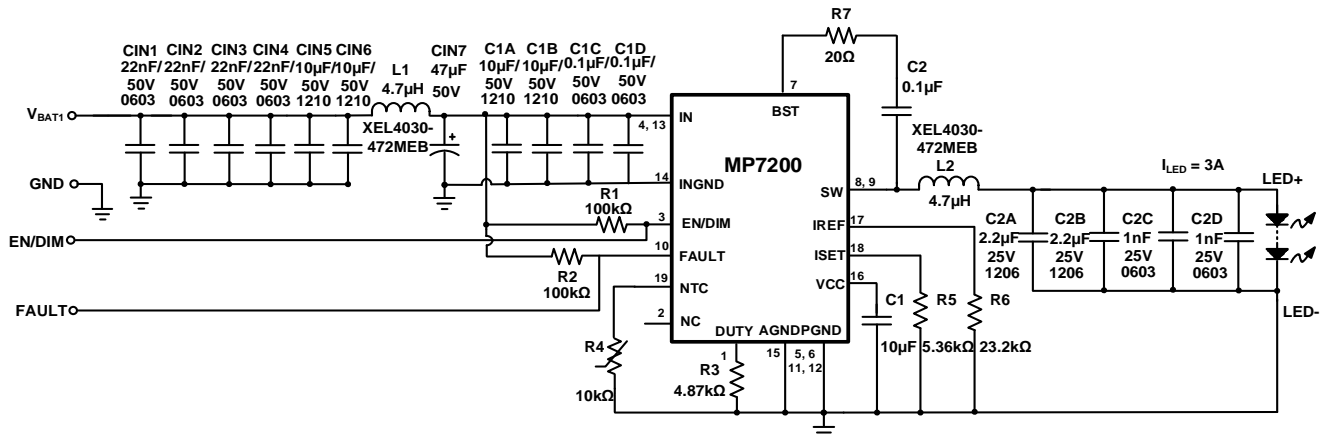

Figure 11: I_{LED} = 3A Buck Application Circuit with No Two-Step Dimming
- 13) The recommended layout is based on Figure 11.